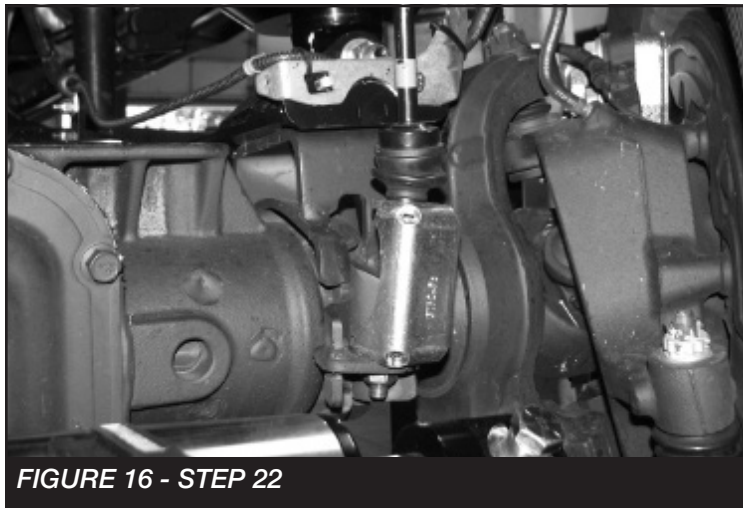

FIGURE 14 - STEP 19
- 19. Install the resi can to the resi mount using the supplied clamps. **SEE FIGURE 14****